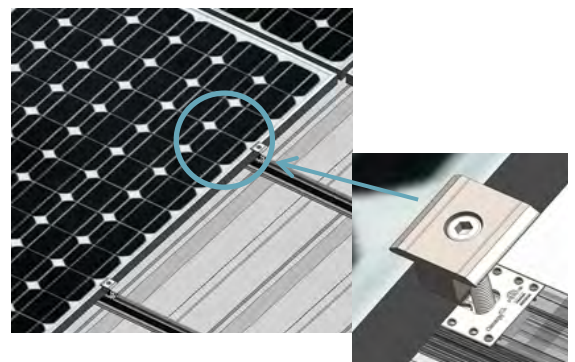

Figure 7
- Step 2: Slightly lift the PV Module and slide Inter Clamps and Grounding Clips into position. The teeth on Grounding Clip will automatically align when the Inter Clamp is properly installed as shown in Figure 7;